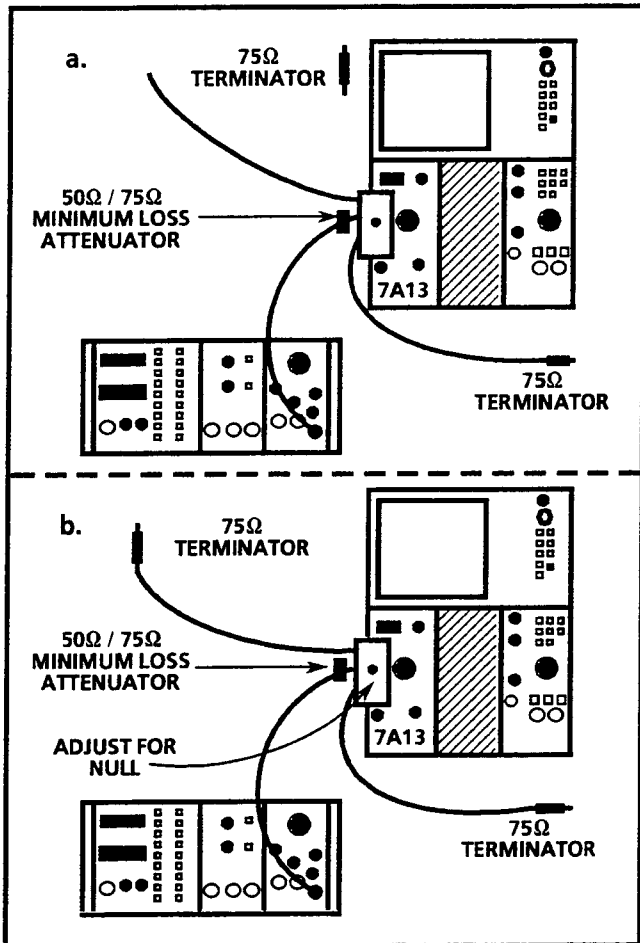

Fig. 5-11. Setting up the Return Loss Bridge: a) Set-up 500 mV amplitude. b) Null bridge.
- a. Connect the output from the sine wave generator, through a minimum loss attenuator, to the input of the Return Loss Bridge. Set the sine wave generator to 50 kHz. See Fig. 5-11.